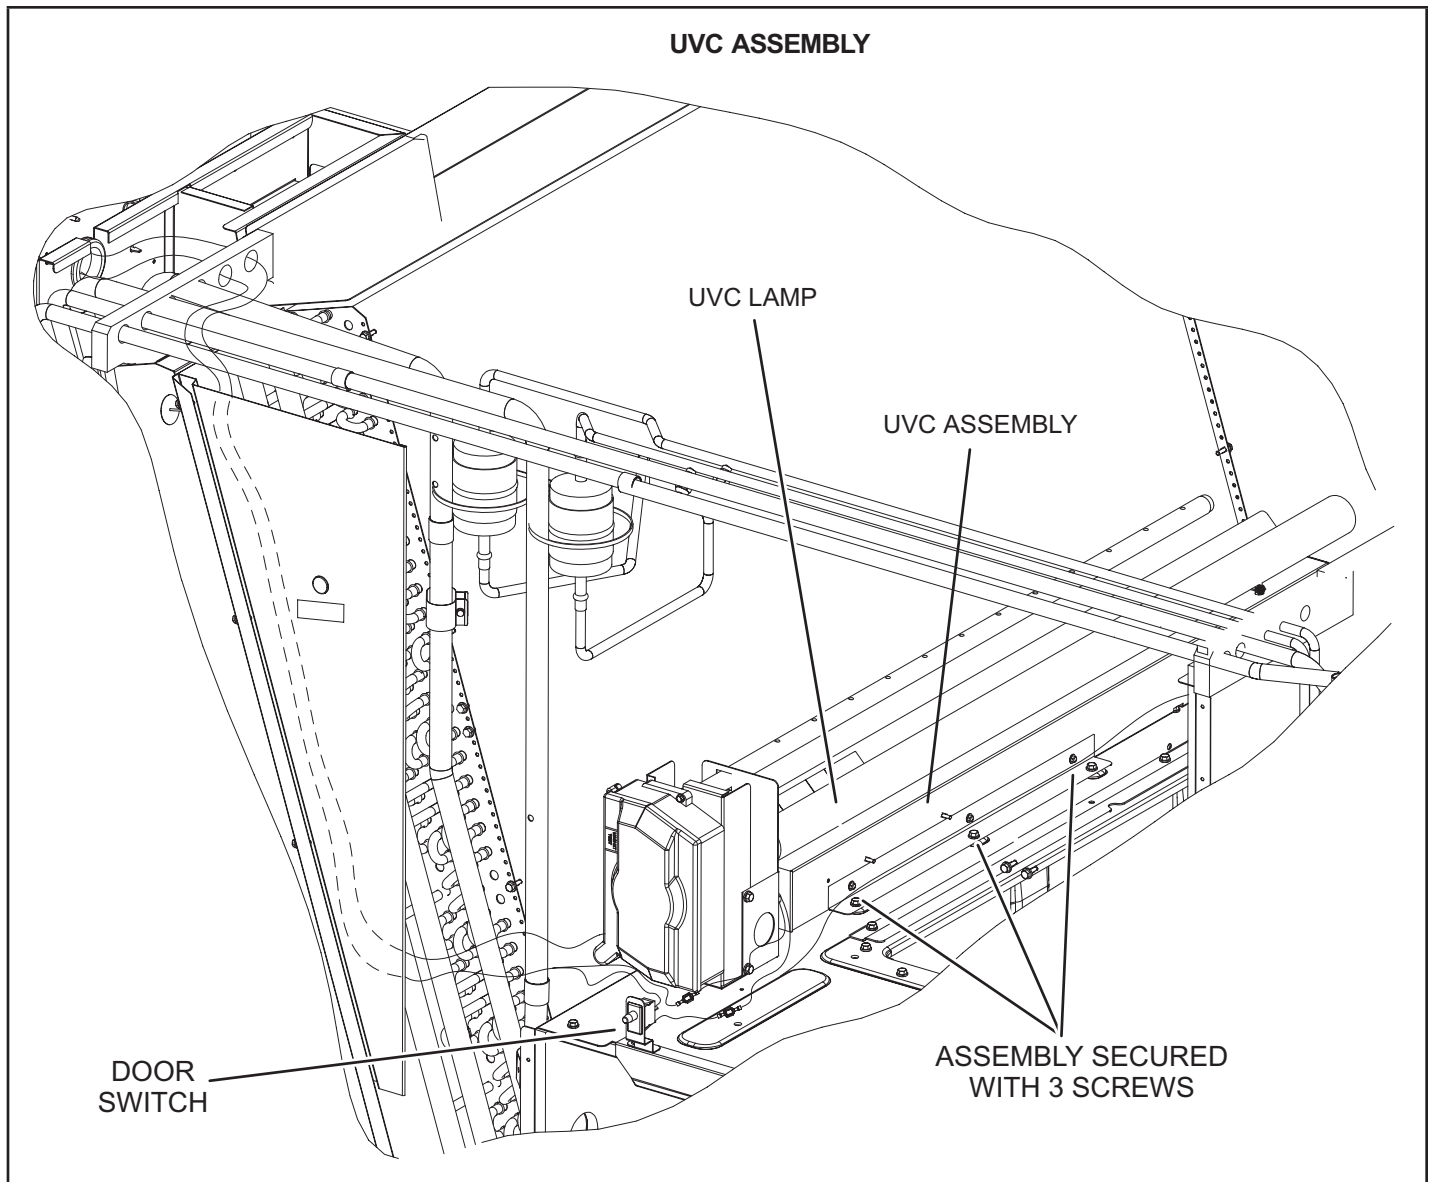

FIGURE 44
When the UVC light is factory installed, the lamp is shipped in a foam sleeve. The lamp is attached to the UVC light assembly on the blower deck. See FIGURE 44. Remove the lamp and install into the UVC light assembly as shown in steps 2 through 11.
- 5 - Remove and retain the (3) screws securing the UVC assembly. Carefully slide the complete UVC assembly out through the blower access door. See FIGURE 44.
- 8 - Carefully place the UVC assembly on the blower deck. Line up the mounting holes on the UVC assembly with the mounting holes on the blower deck. See FIGURE 44. Use the retained screws provided to attach the UVC assembly in place.